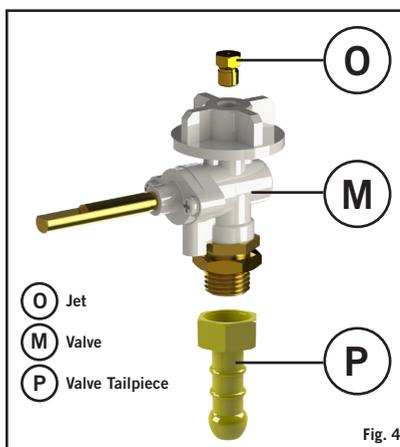

Fig. 4
- On the other end, attach a suitable 30bar low-pressure (I3B/P (30) : 30mbar Butane/Propane configurations regulator; I3+(28-30/37): 30mbar Butane regulator or 37mbar Propane regulator); I3B/P(37): 37mbar Butane/Propane configurations regulators). Again making sure that the hose is well sealed. The type of hose used shall comply with the relevant EN standard and locate requirement. In South Africa the regulator used must comply with SABS 1237.
- Appliance category:** I 3B/P (50) (AT, DE)
- Screw a Hose with the correct threaded fittings on each end, onto the left hand ¼" BSP thread of the Valve (O) (Fig.4). Attach a suitable 50mbar low-pressure regulator on the other end of the hose. The hose used must comply with DIN 4815 part 2 or equivalent.